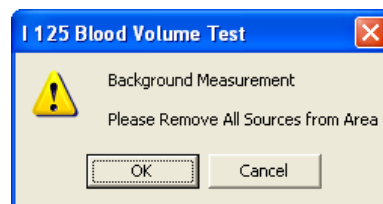

Figure 10-40
4. First, the screen prompts you to measure background counts as shown in Figure 10-40.
click the  button or press the *N* key. The screen shown in Figure 10-40 will appear.